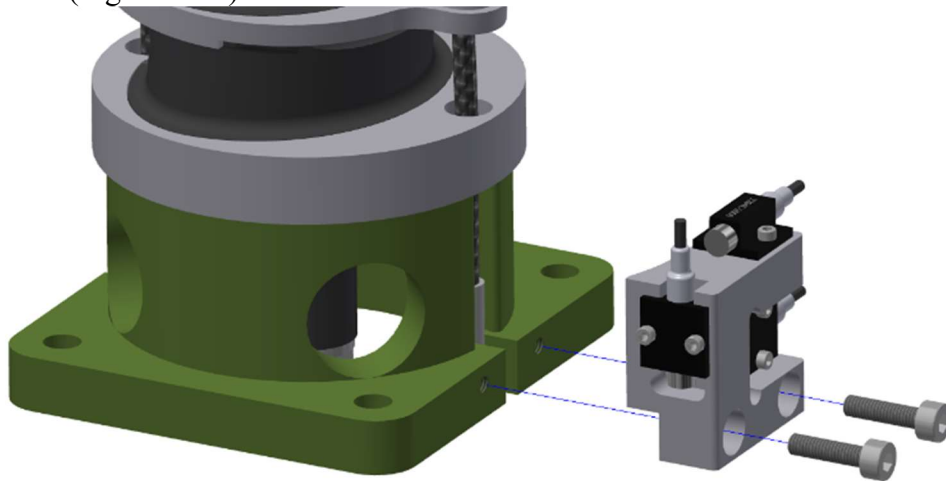
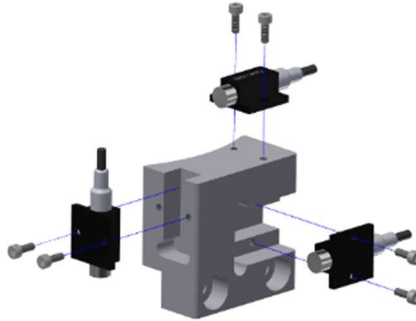

Figure 4-20. Remove T1 accel mount (SA572-S168) from lower neck load cell by removing two M3 X 0.5 X 12 LG. SHCS
Figure 4-21. Remove the three accelerometers from the T1 accel mount (SA572-S168) by removing two M1.4 X 0.3 X 4 LG. SHCS per accel
4.2.11 Remove T1 accel mount (SA572-S168) from lower neck load cell by removing two M3 X 0.5 X 12 LG. SHCS (Figure 4-20). Remove the three accelerometers from the T1 accel mount by removing two M1.4 X 0.3 X 4 LG. SHCS per accel (Figure 4-21).